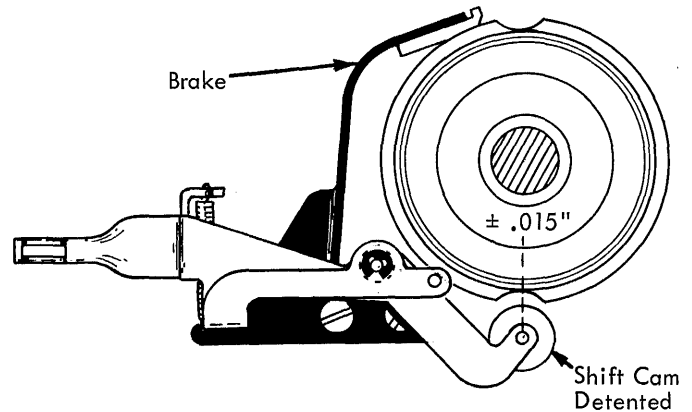

FIGURE 69. Shift Cam Brake Adjustment
4. **Shift Cam Brake** (Fig. 69) - The shift cam brake shall be so adjusted, that the shift cam will stop in the center of the detent position $\pm .015''$, when the detent roller is held away from the cam during the shift from upper case to lower case.